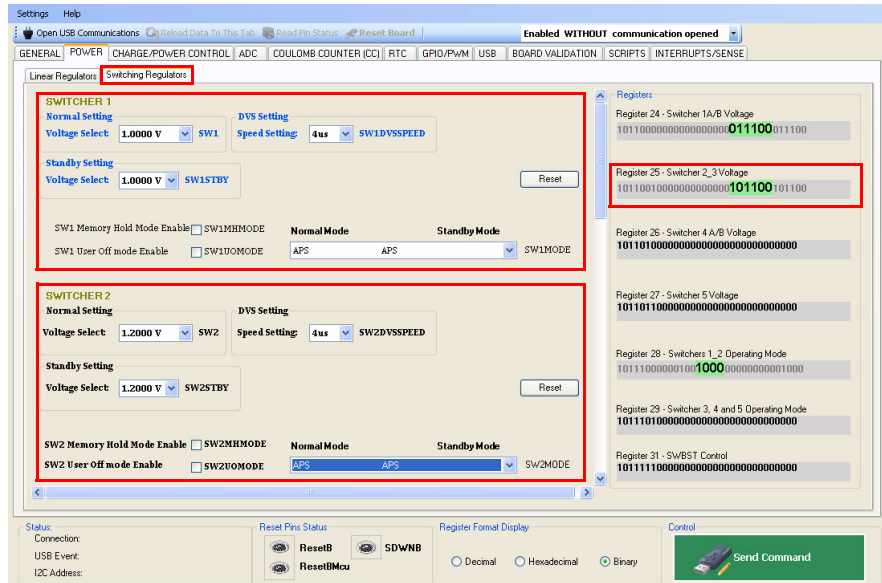

Figure 17. Writing and Reading Commands Using the Software Program
2. Click **Switching Regulators** sub-tab (Figure 17), to change the settings of the switching regulators as well as the PLL configuration.